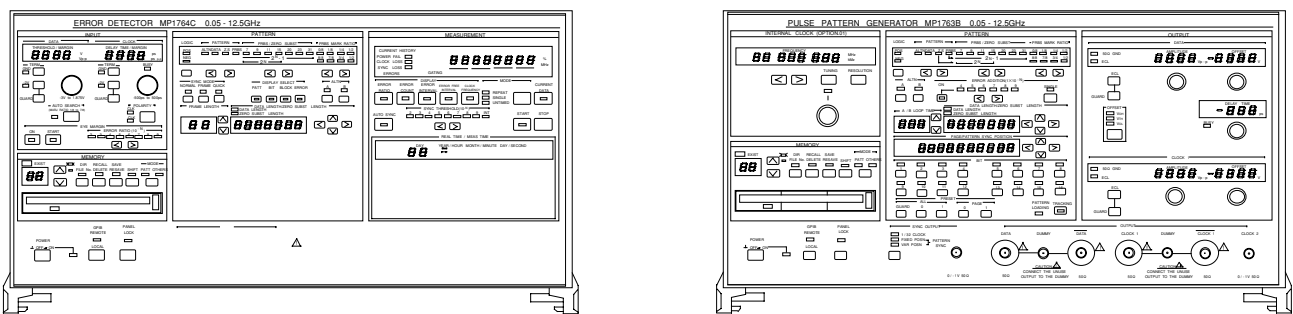

Fig. 7-1 MP1763B/C and MP1764C Setup
(3) Procedure
- (a) Set up the equipment as shown in Fig. 7-1.
(2) Setup
The setup method is the same as Paragraph 7.3.1(2) and is shown in Fig. 7-1.
(a) Set up the equipment as shown in Fig. 7-1.